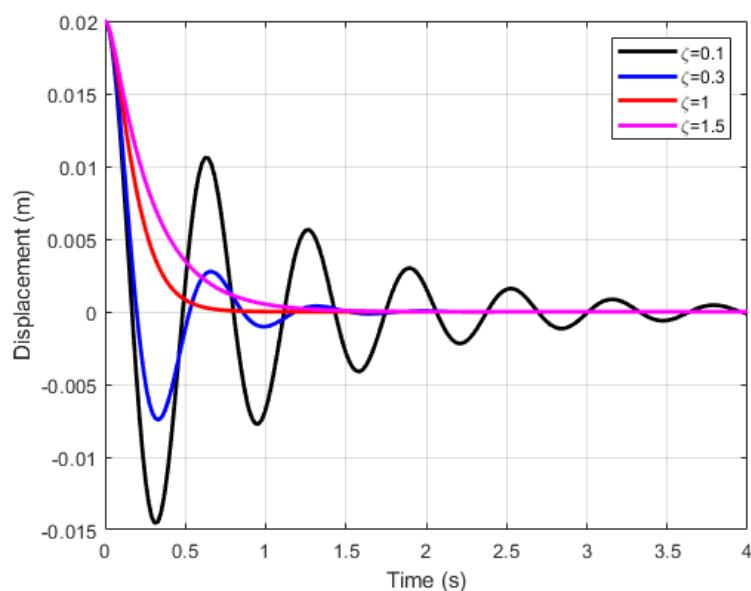

Figure 107: The displacement versus time graphs for spring-mass-damper system having the same natural frequency but different values of damping ration.
After it is released, the potential energy (PE) in the spring is converted into kinetic energy (KE) causing the velocity of the mass to increase. When the PE is reduced to zero, the KE is at its maximum, however, the maximum kinetic energy is less than the potential energy (20 mJ) initially stored in the spring. This is because energy is also dissipated through the damper. The graphs in Figure 107 show PE and KE versus time.
The value of ζ determines whether the system will oscillate and, if it does, how long it takes to dampen the oscillation. The displacements $y(t)$ for different values of ζ but same value of ω_n are shown in Figure 107.